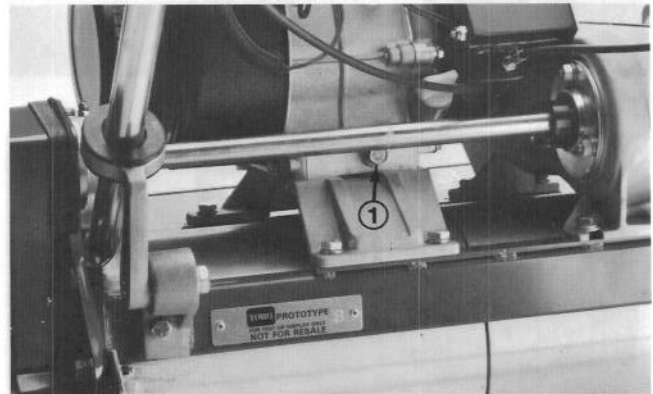

Figure 25
2. Place a drain pan at rear of machine under drain plug (Fig. 25). Remove drain plug.